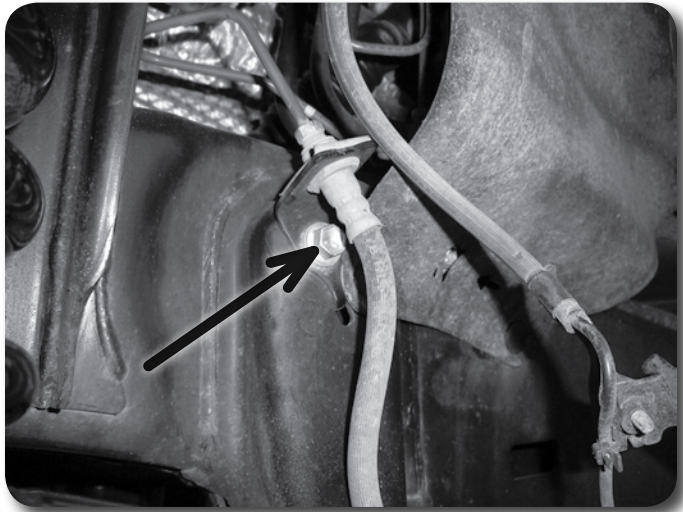

Figure 7
10. Disconnect the brake line bracket from the frame **Figure 7**. Save bolt. Remove the ABS line from the retaining bracket on the upper control arm.